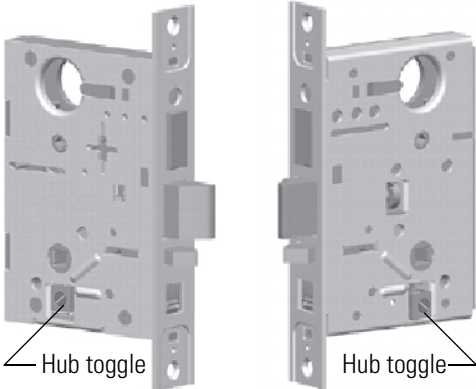

Figure 6.3 Positioning the hub toggles
2. To change the position of a hub toggle, remove the toggle screw, move the toggle into the desired position, and re-tighten the screw. See Figure 6.3.